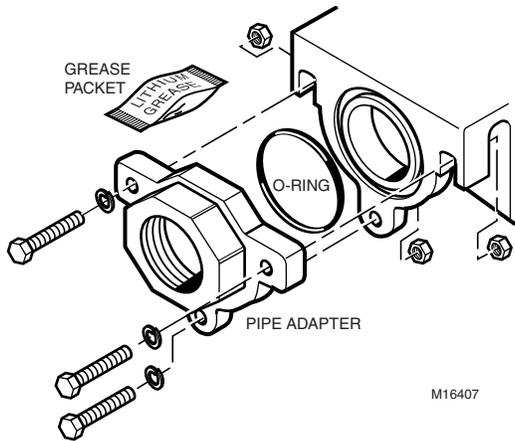

Fig. 2 Connecting the pipe adapter to the valve.
Connecting Upstream or Downstream Pipe Adapter to Valve (Fig. 2)
3. Assemble the pipe adapter to the valve using the three bolts, nuts and lock washers as shown in Fig. 2.